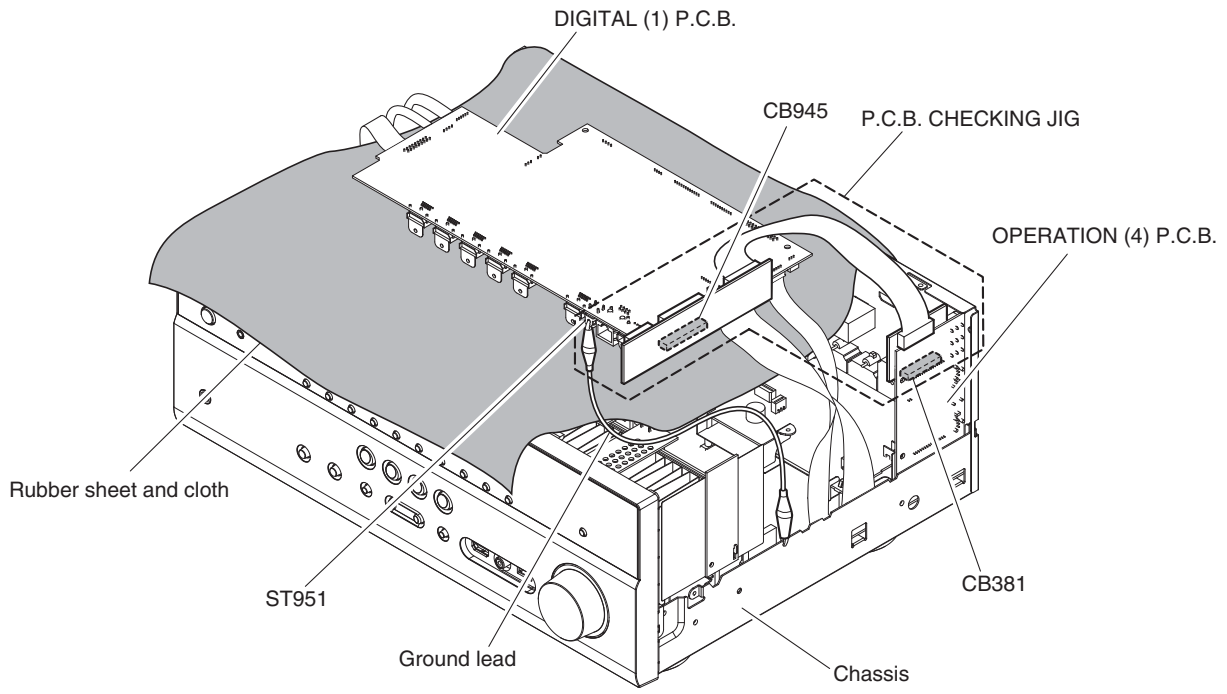

Fig. 5
- Put the rubber sheet and cloth over this unit, and place the DIGITAL (1) P.C.B. on them. (Fig. 5)
- Connect ST951 on DIGITAL (1) P.C.B. to the chassis with a ground lead. (Fig. 5)